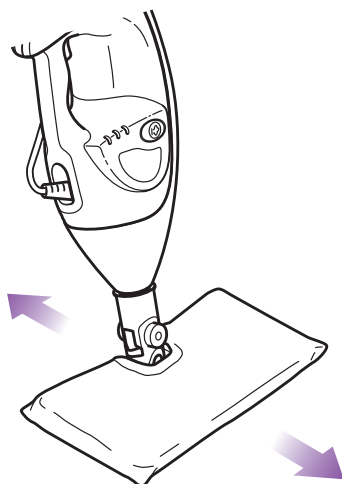

fig. 11
- 4** Clean your floors with a forward and backward motion. (fig. 11)